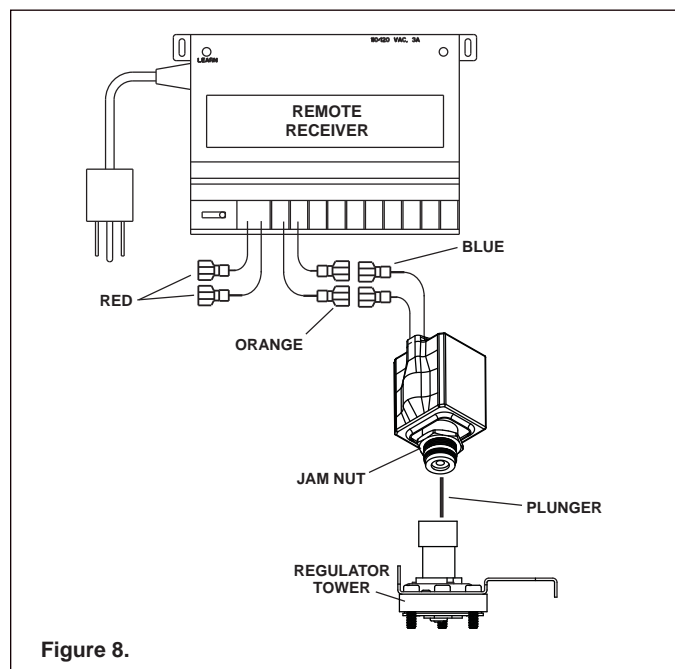

Figure 8.
9. Connect blue wires from the solenoid to the orange wires on the remote receiver box. See Figure 8.